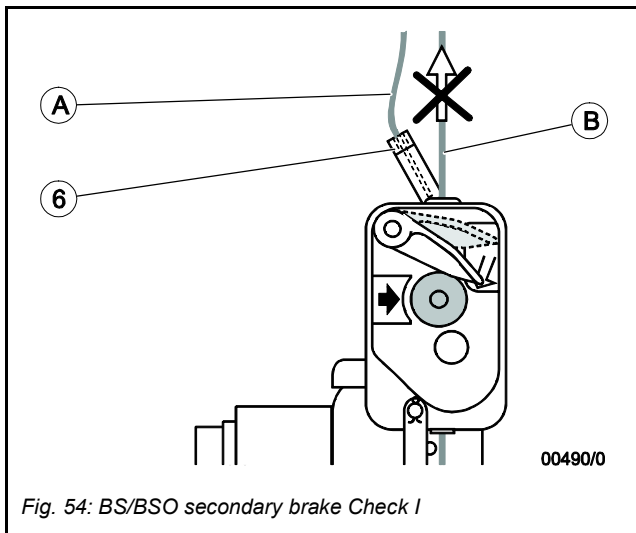

Fig. 54: BS/BSO secondary brake Check I
- (1) At ground level push DOWN button to get slack primary wire rope (A) – release lever (6) tilts to the side to close BS/BSO secondary brake for the secondary wire rope (B) (Fig. 54).
- (2) With gloved hands try to pull the secondary wire rope upwards: it must be impossible.